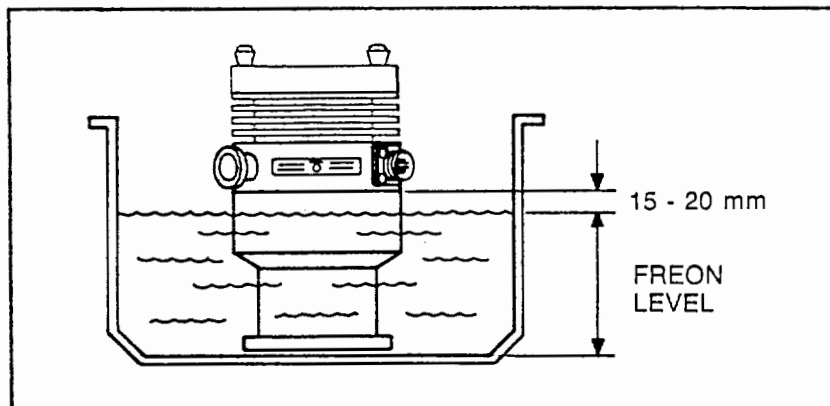

Fig. 4.2 - Assembly Pump Cleaning
- 2) Make sure that the cables and water cooling pipes are disconnected from the pump, then undo the high vacuum flange and empty any water left in the cooling jacket. Turn the pump upside down (see Fig. 4.2) and dip it into the Freon up but not beyond 15-20 mm ($1/2'' - 3/4''$) from the end of the stainless steel envelope.